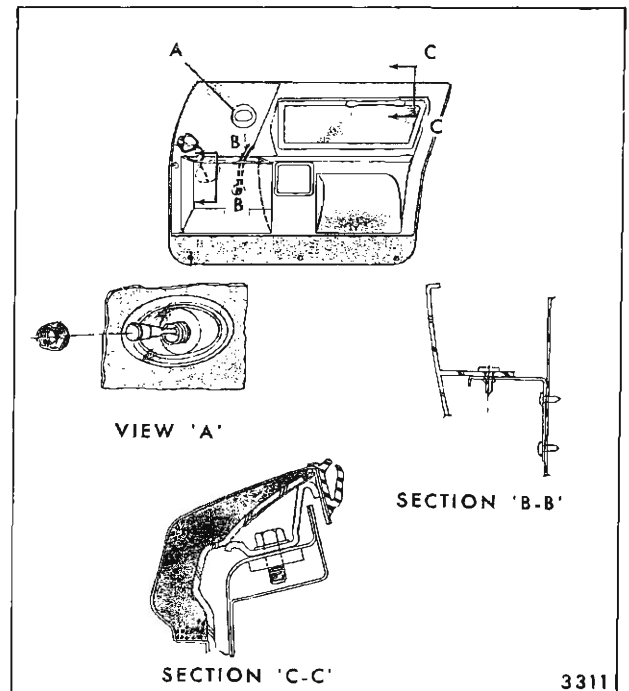

Fig. 14-13—Door Trim Panel Removal - Pontiac Styles
On Pontiac styles, the escutcheon is a threaded spanner nut, which, when removed, permits removal of the mirror controls from the trim assembly (View 'A', Fig. 14-13).
6. On Pontiac 26200 series, 76637 & 39 styles and 27657 style, remove arm rest to hanger plate attaching screw which is exposed when switch cover plate is removed (Section 'B-B', Fig. 14-13).
**NOTE:** On styles with adjustable trim supports at beltline (Section 'C-C', Fig. 14-13), the door trim assembly can be adjusted in or out so as not to restrict door window operation.